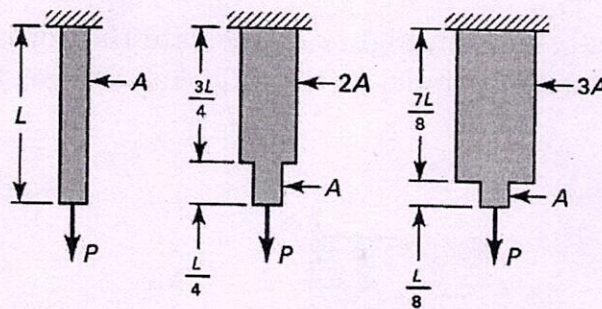

Figure 4
Q.7 Three bars of successively larger volume are to support the same load P , see Figure 4. Note that the first bar has uniform cross-sectional area A over its length L . Neglecting stress concentrations, compare the strain energy stored in the three bars.